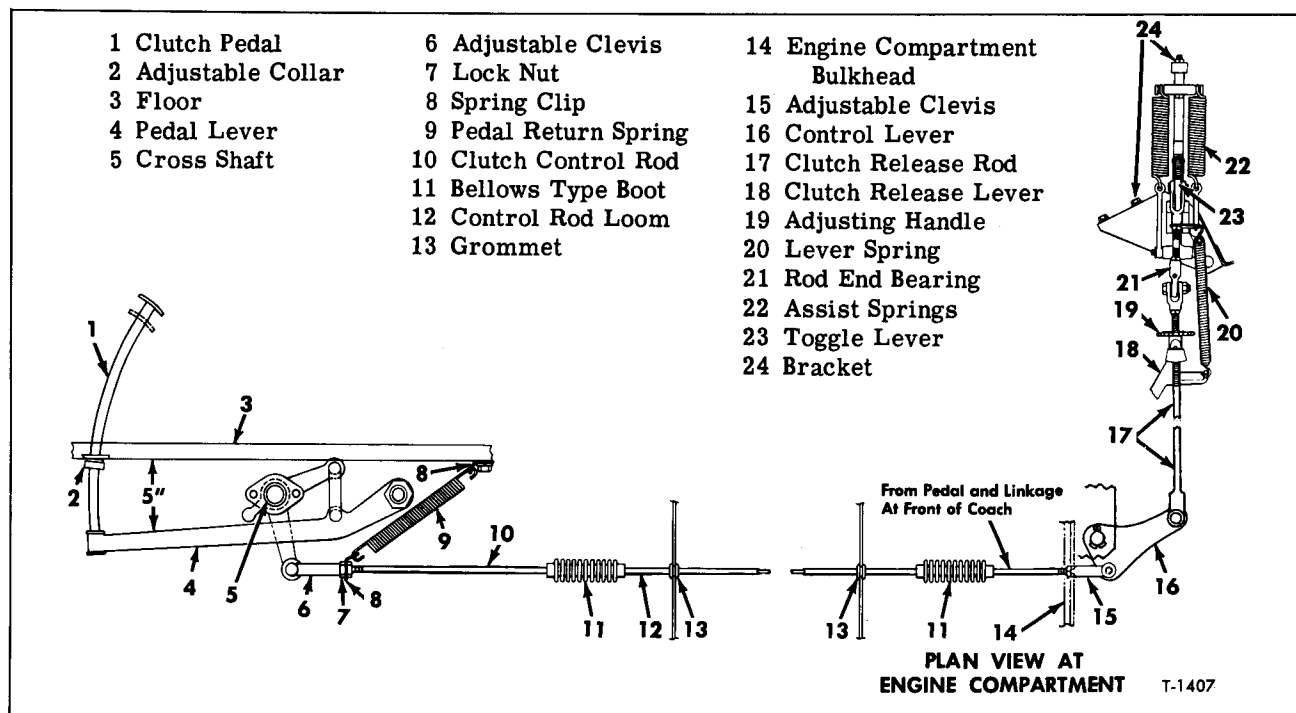

Figure 3—Clutch Control Linkage
Figure 3 shows the clutch release linkage arrangement. Clutch release is affected by pedal, the movement of which is transmitted to release mechanism through rods and levers.
CLUTCH PEDAL AND LINKAGE (Fig. 3)
CAUTION: Always make adjustments as later described at linkage in engine compartment after replacing any items shown in figure 3.
1. Make clutch pedal and linkage adjustment at front of coach as previously directed, making sure the clutch pedal lever is held at the 5-inch dimension as shown in figure 3.